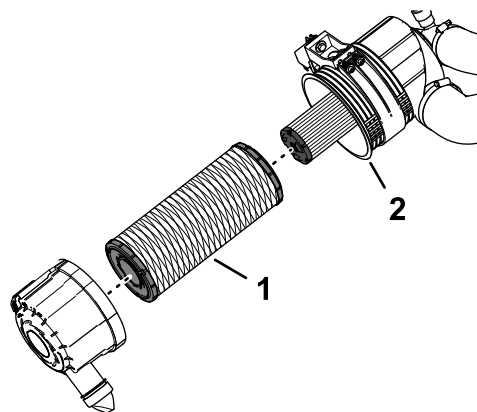

Figure 109
7. Remove the primary-filter element (Figure 109).